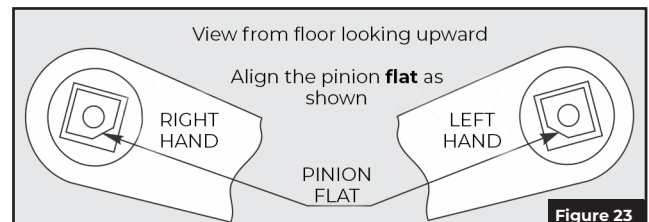

Figure 23
**NOTE:** Pinion flat should be aligned as shown. (Figure 23)